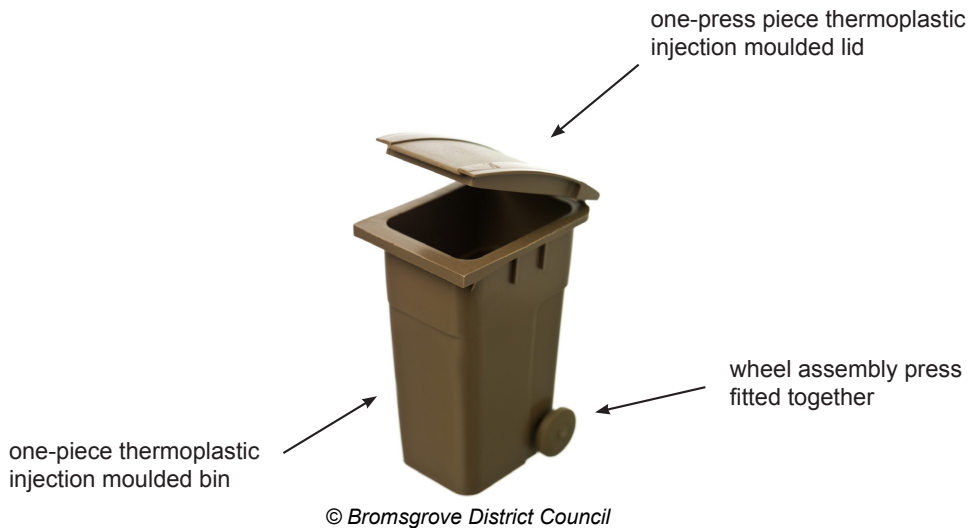

Fig. 6(a)
6 Fig. 6(a) below shows a photograph of a wheelie bin used for domestic waste.
- (a) For any **two** of the 6R's explain how the company could claim that through the design and manufacture of the wheelie bin shown in Fig. 6(a) environmental issues are being addressed. [4]